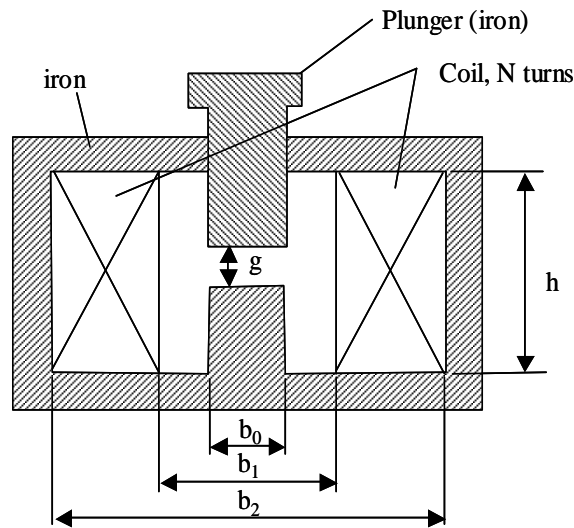

Figure 2
3. a. Figure 2 shows a planar electromagnetic plunger. Calculate the winding inductance per-unit length, specifying any assumptions which are made. (full marks will not be given if the assumptions are not listed)